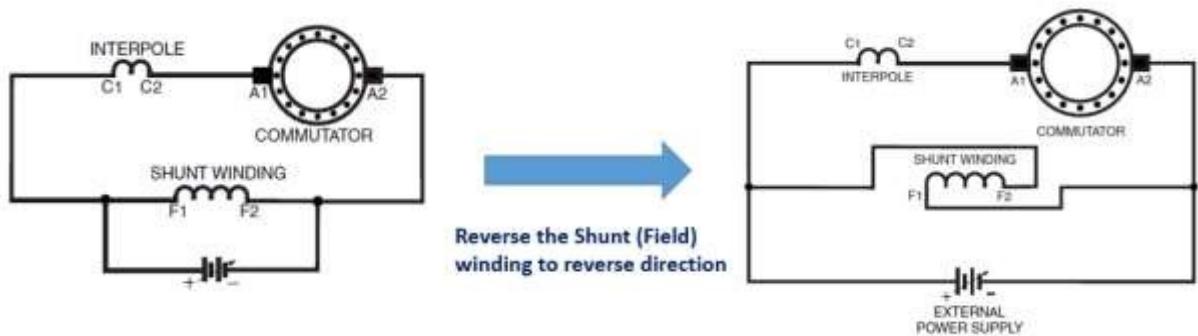

Figure 3: Reversing the Shunt (field) winding to change direction of rotation
3. Reverse the field (shunt) winding with the intent of reversing the direction of rotation of the shaft (see Figure 3).